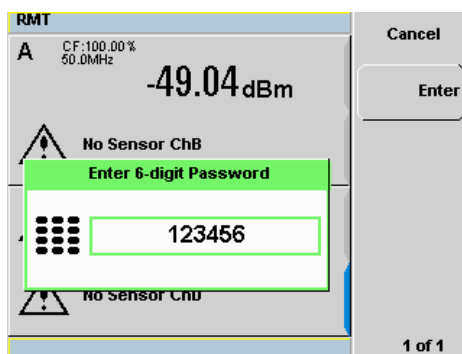

Figure 2-47 6-digit password entered
- 4 The entered password will be displayed (see Figure 2-47). Press **Enter**.